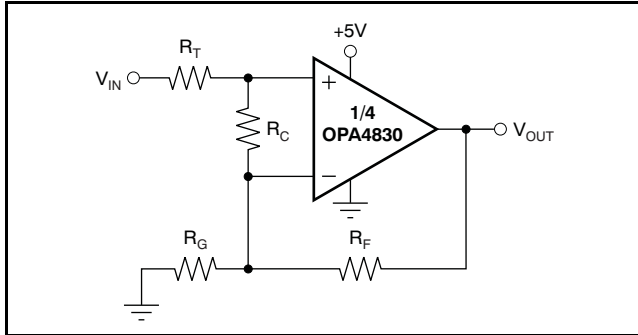

Figure 78. Compensated Noninverting Amplifier
Figure 78 shows a noninverting amplifier that reduces peaking at low gains. The resistor R_C compensates the OPA4830 to have higher noise gain (NG), which reduces the ac response peaking (typically 5dB at $G = +1V/V$ without R_C) without changing the dc gain. V_{IN} needs to be a low-impedance source, such as an op amp. The resistor values are low in order to reduce noise. Using both R_T and R_F helps minimize the impact of parasitic impedances.
Frequency response in a gain of $+2V/V$ may be modified to achieve exceptional flatness simply by increasing the noise gain to $3V/V$. One way to do this, without affecting the $+2V/V$ signal gain, is to add a $2.55k\Omega$ resistor across the two inputs (see Figure 78). A similar technique may be used to reduce peaking in unity-gain (voltage follower) applications. For example, by using a 750Ω feedback resistor along with a 750Ω resistor across the two op amp inputs, the voltage follower response is similar to the gain of $+2V/V$ response of Figure 73. Further reducing the value of the resistor across the op amp inputs further dampens the frequency response because of increased noise gain. The OPA4830 exhibits minimal bandwidth reduction going to single-supply ($+5V$) operation as compared with $\pm 5V$. This minimal reduction is because the internal bias control circuitry retains nearly constant quiescent current as the total supply voltage between the supply pins changes.
The criterion for setting this R_S resistor is a maximum bandwidth, flat frequency response at the load. For a gain of $+2$, the frequency response at the output pin is already slightly peaked without the capacitive load, requiring relatively high values of R_S to flatten the response at the load. Increasing the noise gain also reduces the peaking (see Figure 78).